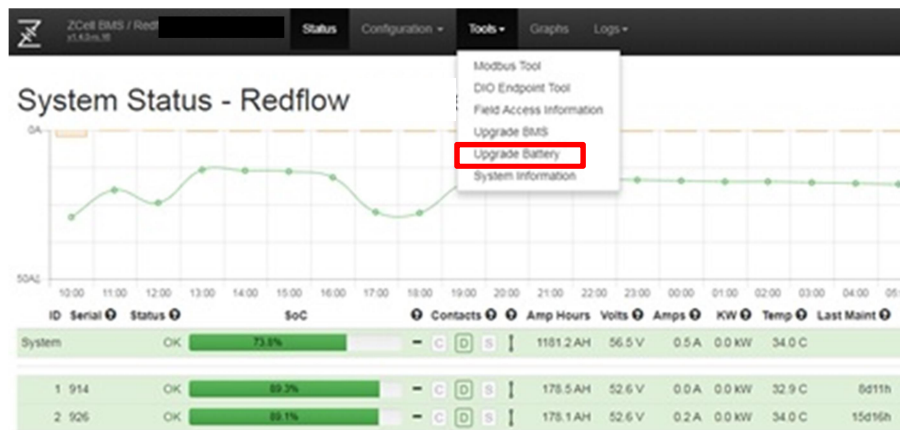

Figure 44: BMS interface showing Upgrade Battery selection
Step 2 Look for any ZBM2 firmware updates prior to operation. This is done by selecting Upgrade Battery from the Tools drop-down list in the top menu (see Figure 44).
Step 3 Put the ZBM2 into Run mode by going to the system Status page (see Figure 44) and clicking the ZBM2 that should be started. On the ZBM2's Battery Status page, click the "bring battery online" link (see Figure 46). The Operational Mode will change from "offline" to "run" after the user confirms this operation.